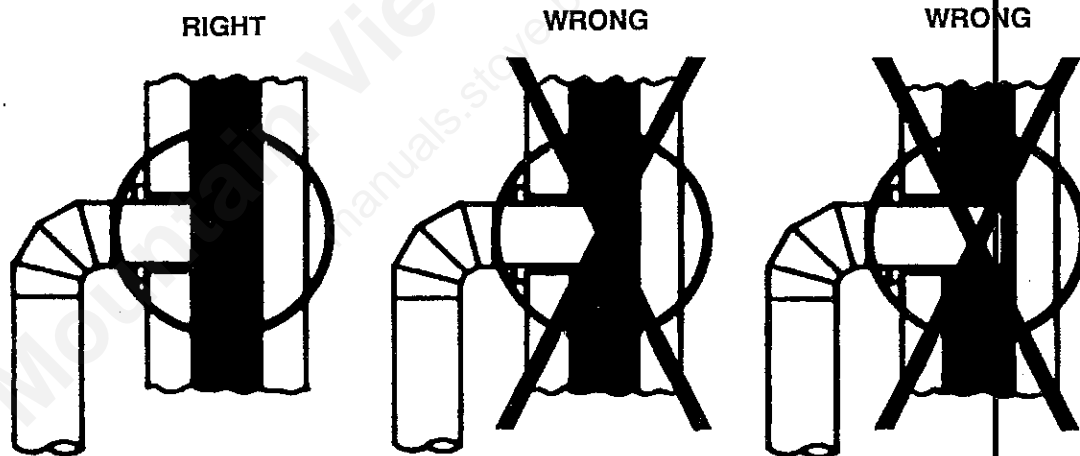

FIG. 8
4. The pipe cannot extend into the chimney flue (Fig. 8).